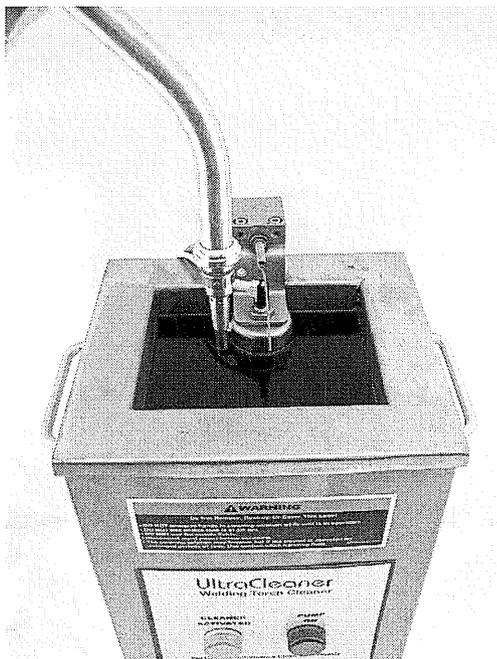

Figure 3
- 2) Remove nozzle from torch. (See Figure 3, Pg. 9)